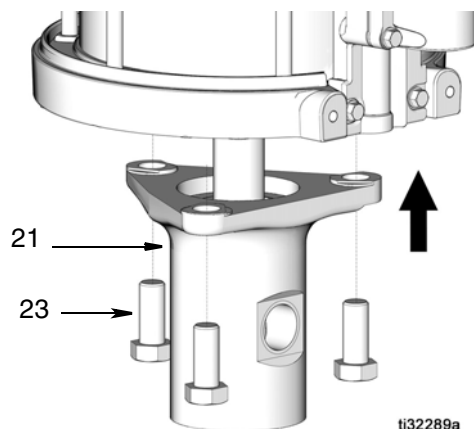

FIG. 10
3. Reattach pump base (21) to air motor (1) using 3 mounting bolts (23). Torque mounting bolts to 60 ft-lb (81.35 N•m) (FIG. 10).